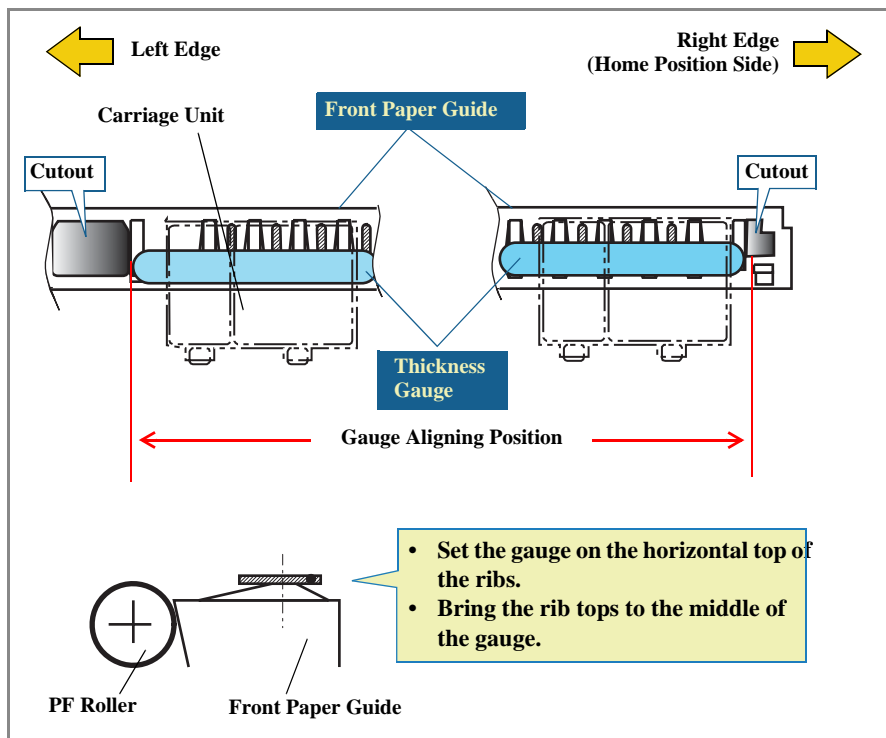

Figure 5-3. Placing the Thickness Gauge
2. Bring the Carriage to the center of the printer mechanism. Then place the thickness gauges (1.14 mm) on the front paper guide aligning them with the right and left square cutouts in the front paper guide. (See Figure 5-3.)